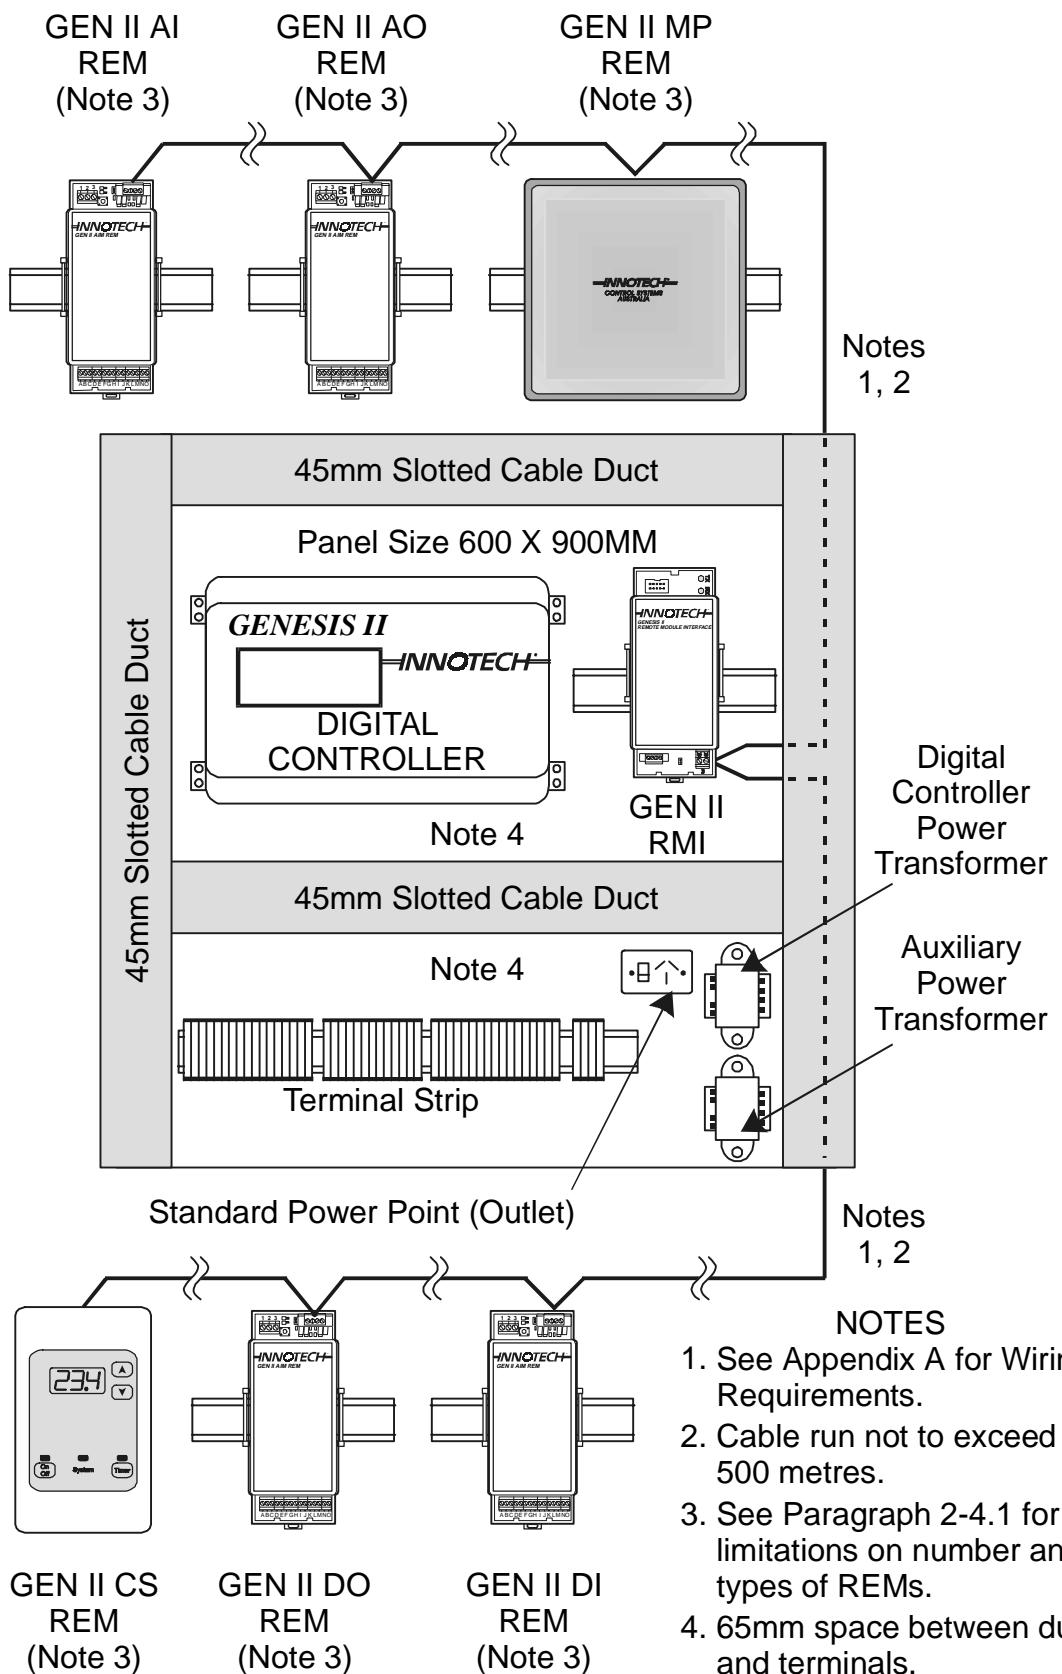

Figure 2-11. Typical Remote System Layout.
**2-4.2. TYPICAL INSTALLATION.** Figure 2-11 shows an example of a typical installation using REMs.